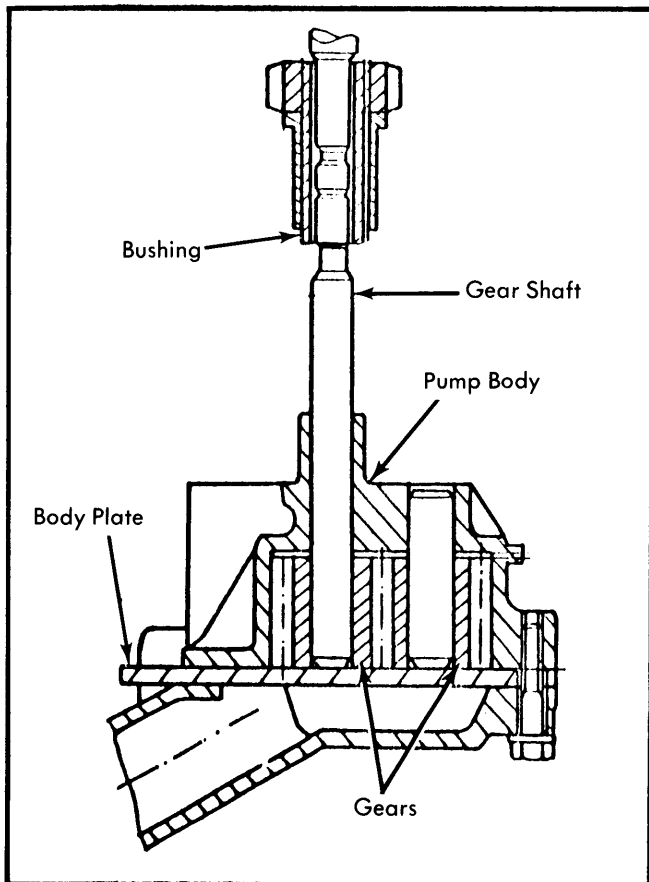
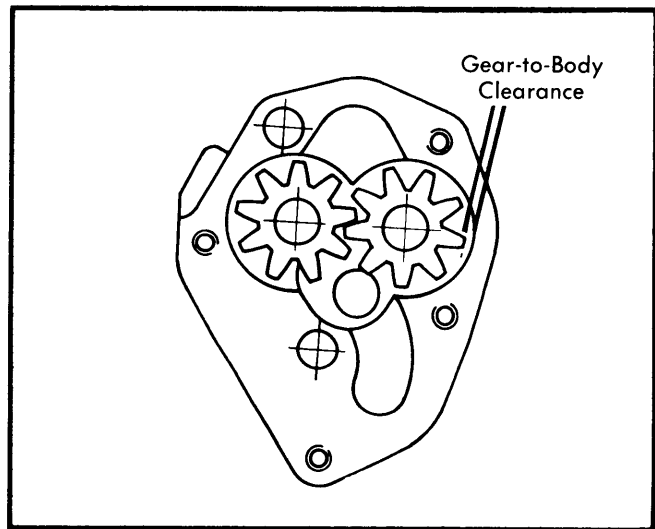

Fig. 13 Oil Pump Components
Fig. 14 Checking Oil Pump Gear Side Clearance
2) Remove pump from vise and remove gears from pump body. See Fig. 13. Inspect gears for scoring or "steps" and replace if necessary. Check side clearance between gears and pump body. See Fig. 14. Excessive clearance indicates wear to